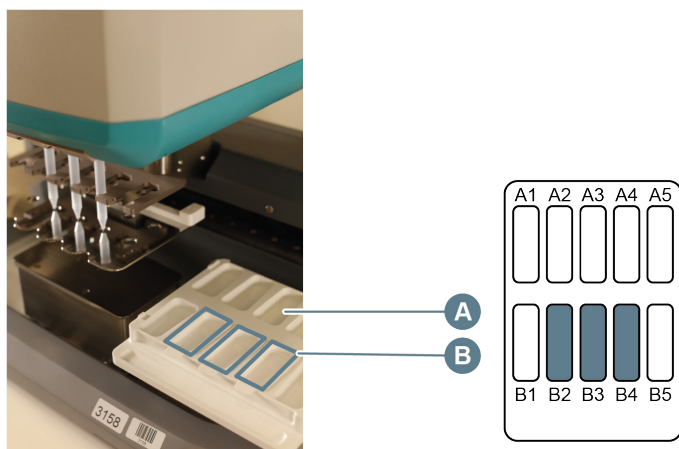

Figure 10. Reservoir tray in filling position
1. Start the PCR program *Olink PCR1* on the two ProFlex™ PCR instruments (Figure 10). Pause when the PCR block temperature reaches 50 °C.